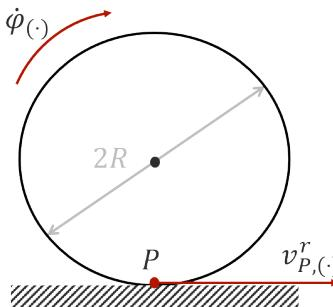

Figure 6.3. Pure rolling kinematic constraint
- *Pure rolling:* the wheels never slips or skids (Figure 6.3). Recalling that  $R$  is the radius of the wheels (identical) and letting  $\dot{\varphi}_l$ ,  $\dot{\varphi}_r$  be the angular velocities of the left and right wheels respectively, the velocity of the ground contact point  $P$  in the robot frame is given by: